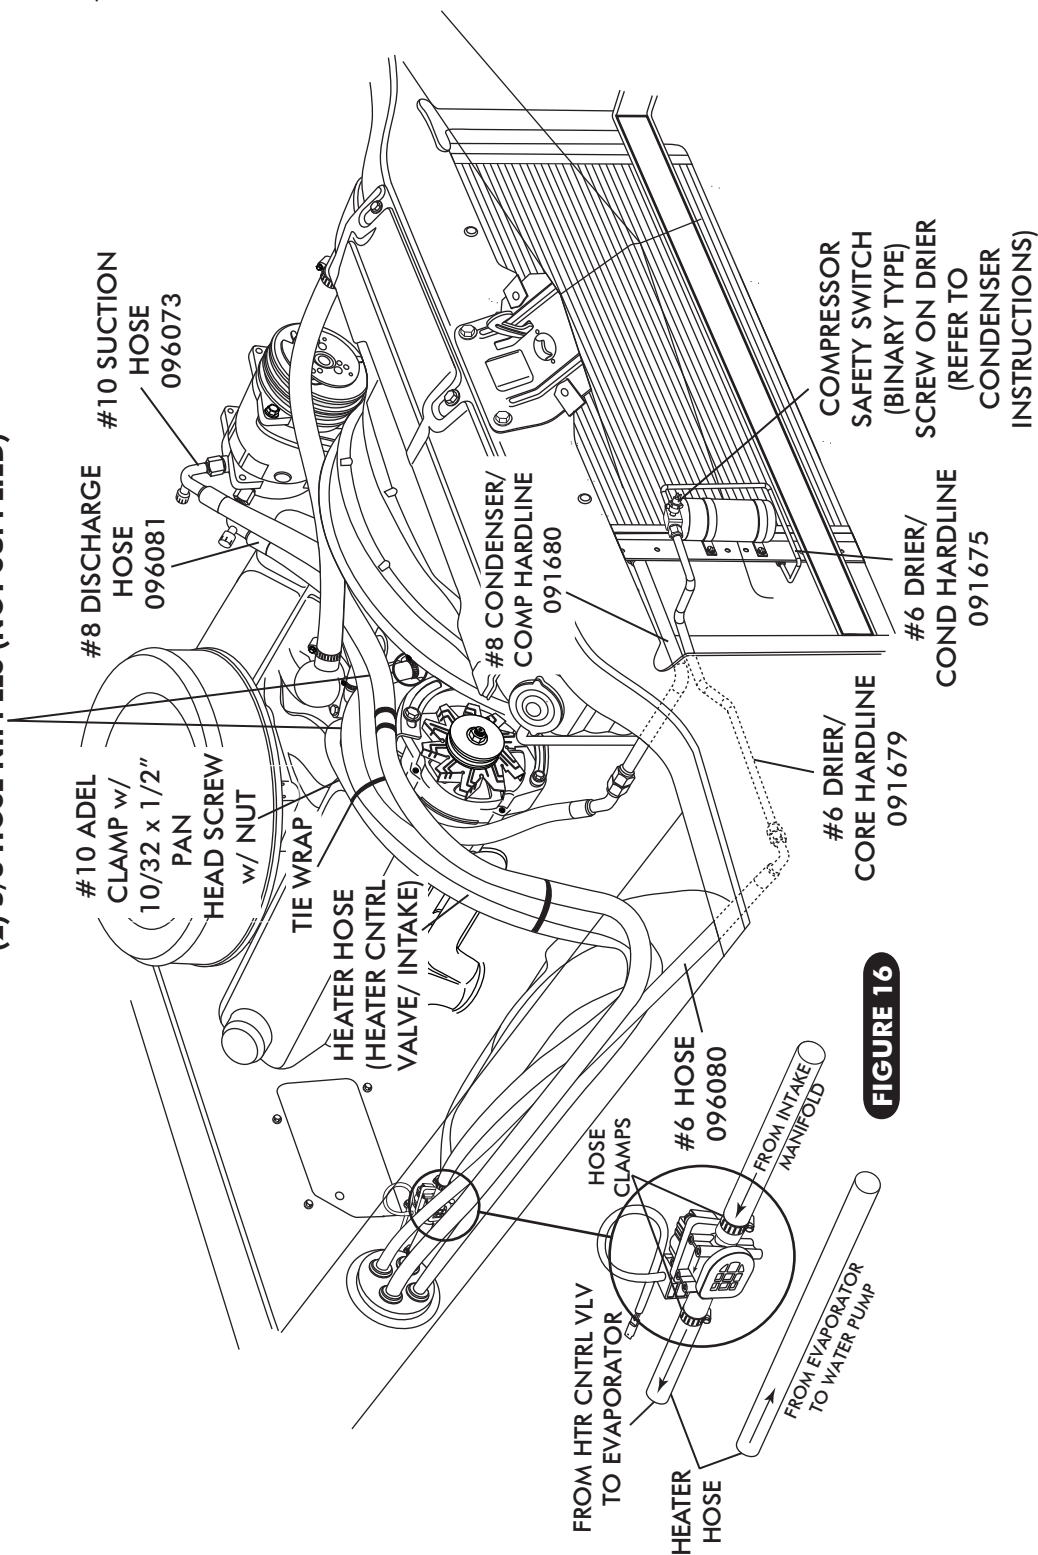

FIGURE 16
- ☐ LOCATE THE #8 COMPRESSOR A/C HOSE. LUBRICATE (2) #8 O-RINGS (SEE FIGURE 15, ABOVE) AND CONNECT THE 90° FEMALE FITTING w/ 134a SERVICE PORT TO THE #8 DISCHARGE PORT ON THE COMPRESSOR. ROUTE THE 45° FEMALE FITTING TO THE #8 CONDENSER HARDLINE COMING THROUGH CORE SUPPORT. SEE FIGURE 16 PAGE 16. TIGHTEN EACH FITTING CONNECTION AS SHOWN IN FIGURE 15 ABOVE.
- ☐ LOCATE THE #10 COMPRESSOR A/C HOSE. LUBRICATE (2) #10 O-RINGS (SEE FIGURE 15, ABOVE) AND CONNECT THE #10 135° FEMALE FITTING w/134a SERVICE PORT TO THE #10 SUCTION PORT ON THE COMPRESSOR. ROUTE THE 90° FEMALE FITTING TO THE #10 EVAPORATOR. SEE FIGURE 12a, PAGE 13 AND FIGURE 16 PAGE 16. TIGHTEN EACH FITTING CONNECTION AS SHOWN IN 15 ABOVE.
- ☐ LOCATE THE #6 EVAPORATOR A/C HOSE. LUBRICATE (2) #6 O-RINGS (SEE FIGURE 15, ABOVE) AND CONNECT THE 90° FEMALE FITTING TO THE #6 HARDLINE COMING THROUGH THE CORE SUPPORT FROM DRIER. ROUTE THE 90° FEMALE FITTING TO THE #6 EVAPORATOR. SEE FIGURE 12a, PAGE 13 AND FIGURE 16 PAGE 16. TIGHTEN EACH FITTING CONNECTION AS SHOWN IN FIGURE 15, ABOVE.
- ☐ ROUTE A PIECE OF HEATER HOSE FROM THE WATER PUMP TO THE TOP HEATER FITTING OF HEATER CORE AS SHOWN IN FIGURE 12a PAGE 13 AND FIGURE 16 BELOW. SECURE USING HOSE CLAMPS.
- ☐ ROUTE A PIECE OF HEATER HOSE FROM THE INTAKE TO THE BOTTOM HEATER FITTING OF HEATER CORE AS SHOWN IN FIGURE 12a PAGE 13 AND FIGURE 16 BELOW. NOTE: INSTALL HEATER CONTROL VALVE IN-LINE WITH INTAKE MANIFOLD (PRESSURE SIDE) HEATER HOSE, SECURE USING HOSE CLAMPS AS SHOWN IN FIGURE 16, BELOW. **NOTE PROPER FLOW DIRECTION.**
(2) 5/8 HOSE NIPPLES (NOT SUPPLIED)**